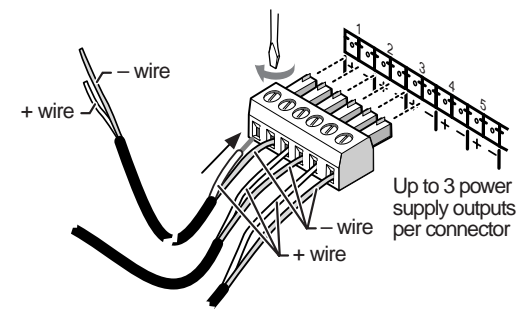

Figure 3 — Connecting power cables to P/S 150
Each captive screw connector has six poles and can support up to three power supply outputs (figure 3).
3. **Power LED** — This front panel LED (figure 3) lights to indicate that the P/S 150 is receiving power.